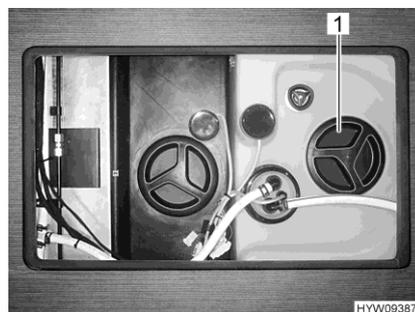

Fig. 209 Cleaning opening (water tank)
- Remove the cap (Fig. 209,1) of the water tank.